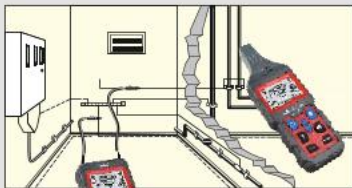
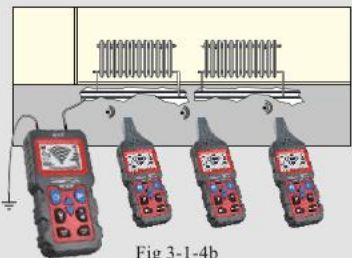

Fig 3-1-4a
Fig 3-1-4b
- ※ The detection of laid tap water pipe and heating pipe is shown in Fig.3-1-4a and Fig.3-1-4b respectively: